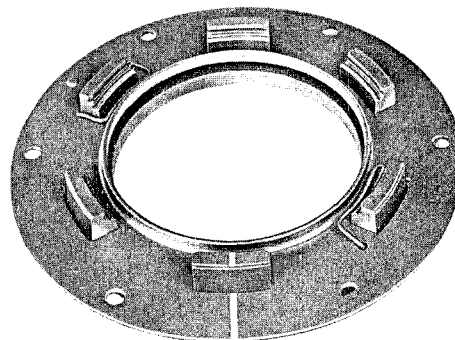

Fig. 256
4. Mark counter plate and pressure plate since these parts have been balanced as a unit (Fig. 256).
1. Insert the pressure plate into the holes of the counter plate noting the marks (Fig. 256) previously scribed. Apply a light film of graphite grease to the sides of the spring carriers.